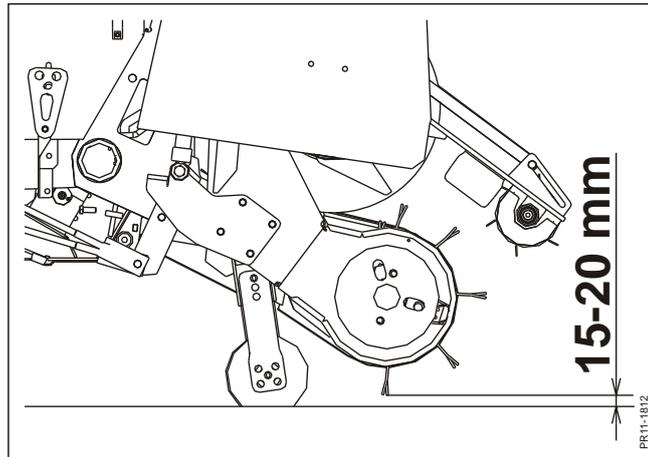

Fig. 6-5
- Fig. 6-5** The pick-up is fitted with support rollers of steel which are adjustable in height. From the factory the wheels have been adjusted so that there is 15-20 mm space between the tines and an even and firm ground. Check regularly that the pick-up tines do not reach further down than necessary to be able to pick up the swath efficiently. If the tines hit the ground too hard they are quickly worn and the drive of the pick-up may be overloaded.